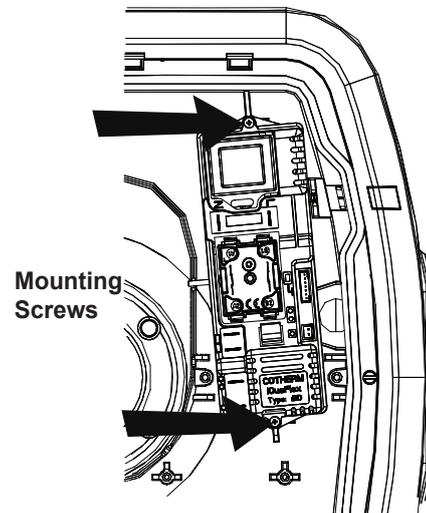

Figure 14: iBD removal
- ▶ Unscrew the two securing screws that secure the iBD to the casing, see fig 14 below.
- ▶ Screw the two securing screws to secure the iBD to the casing, see fig 14 above.